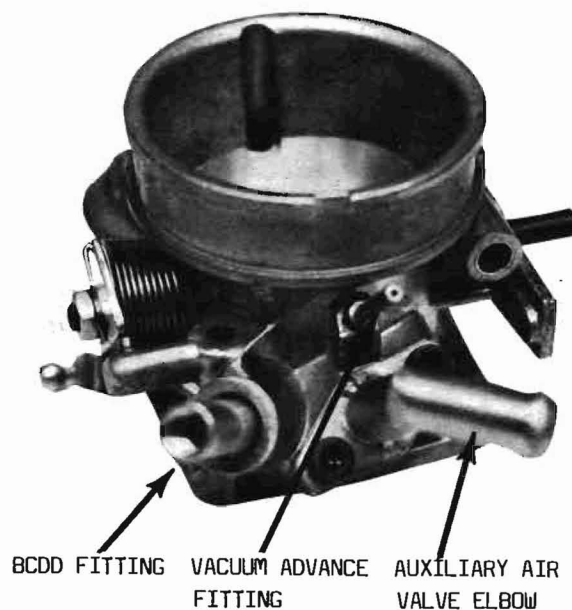

Figure 2
**NOTE:** On 7/79 and later vehicles the aluminum BCDD fitting (Fig. 2) is used. If the vehicle is earlier than 7/79 the BCDD fitting is not used and must be plugged with the Allen plug supplied in the kit.
9. Install the auxiliary air valve elbow on the Weber throttle body (Fig. 2).